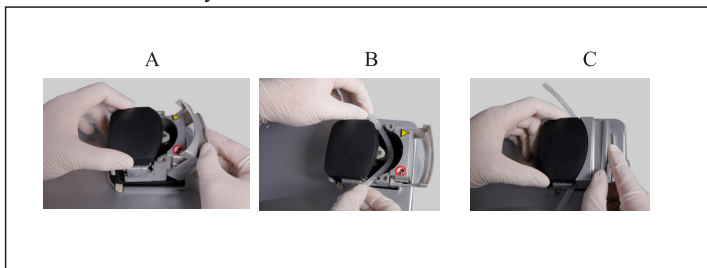

Fig.5
The foot switch of the US-II (LED) must not be activated when the door of the peristaltic pump open. (Fig.5—Ref.B).Moving parts could injure the operator.
- a) Open the door(Fig.5—Ref.A)as far as it will go.
- b) Position the tube in the impeller(Fig.5—Ref.B).
- c) Close the door completely(Fig.5—Ref.C).
The footswitch of the US-II (LED) must not be activated when the door of the peristaltic pump open. (Fig.5—Ref.B).Moving parts could injure the operator.